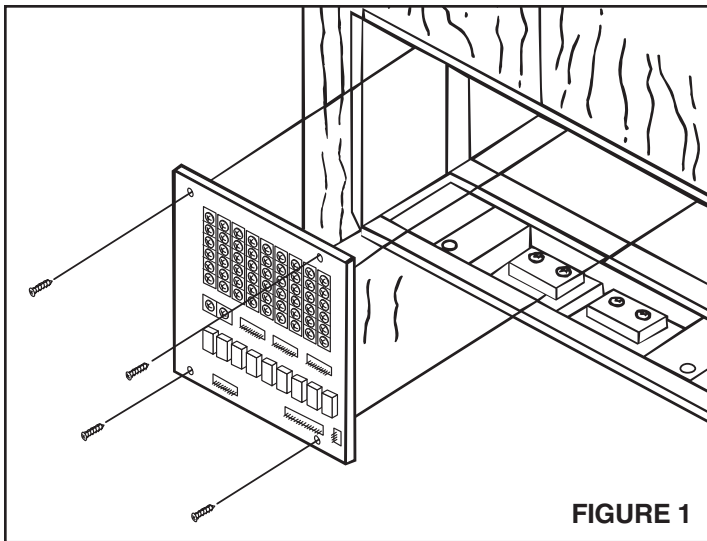

FIGURE 1
2. Refer to Figure 1. Locate the terminal board in the left rear section of the rough-in frame.
3. Use four (4) N° 6 x 3/4" screws supplied to secure the terminal board to the rough-in frame.